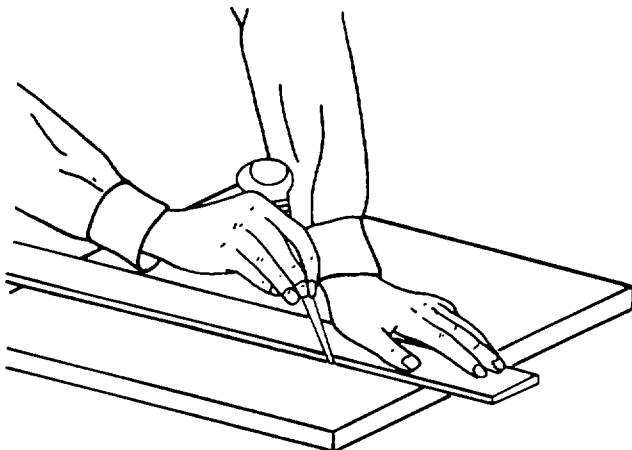

Figure 4-49. Scribing with an Awl
(1) Place the metal to be scribed on a flat surface. Place a ruler or straightedge on the guide marks already measured and placed on the metal.
(2) Remove the protective cover from the awl.
(3) Hold the straightedge firmly. Hold the awl as shown in figure 4-49, and scribe a line along the straightedge.